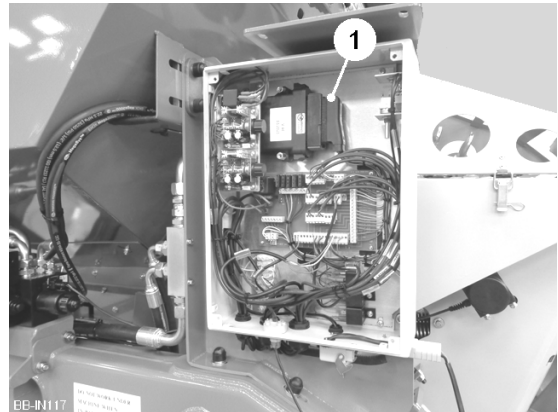

Fig 2A
***Before carrying out any welding on the planter, always disconnect the plugs (item 1, fig 2A). Failure to observe the above precaution may result in severe damage to the planter control system.***